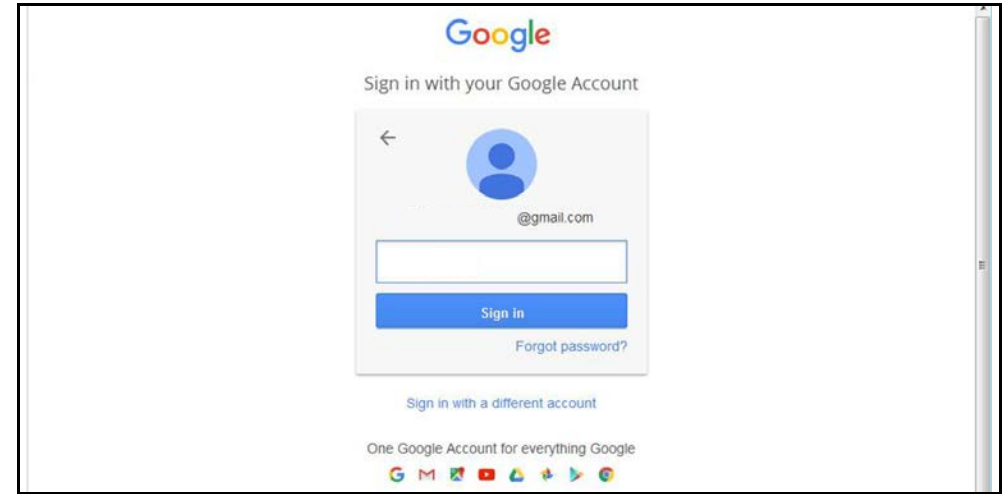

Figure 1-12
5. If your existing email provider login screen displays, enter your email address and password to allow the client to continue the setup with your provider (Figure 1-12).